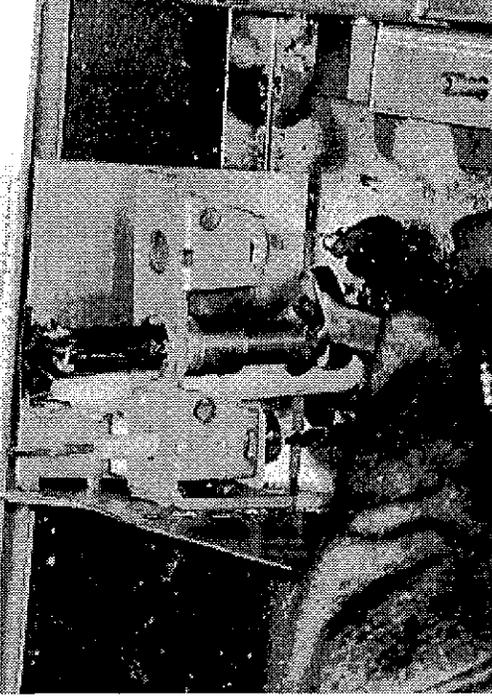

Figure 5.15 Loosening Pilot Nut
- Loosen pilot nut with 1/2 in. wrench. See Figure 5.15.